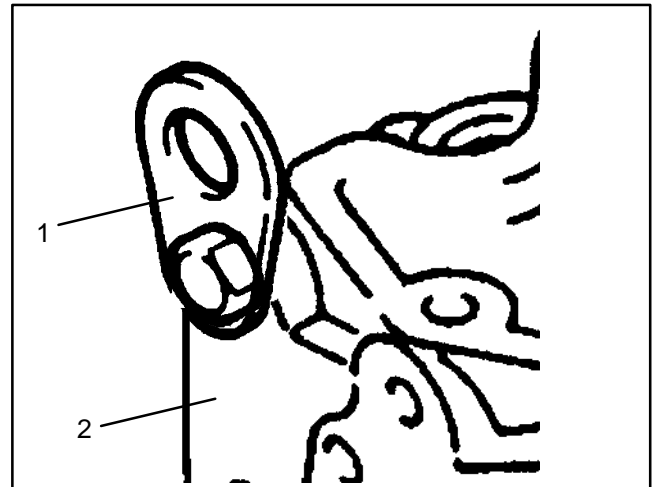

Figure 24
A. Attach short section of chain between both lift tabs (1) located on each end of the cylinder head (2) (Fig. 24)
B. Connect a hoist or chain fall at the center of the short section of chain. Apply enough tension on the short chain so that the engine will be supported when the cap screws (42) securing the engine mount brackets (22, 34, and 46) are removed.
C. Remove cap screws (42) and flange nuts (27) from the engine mount brackets (22, 34, and 46) and the frame.